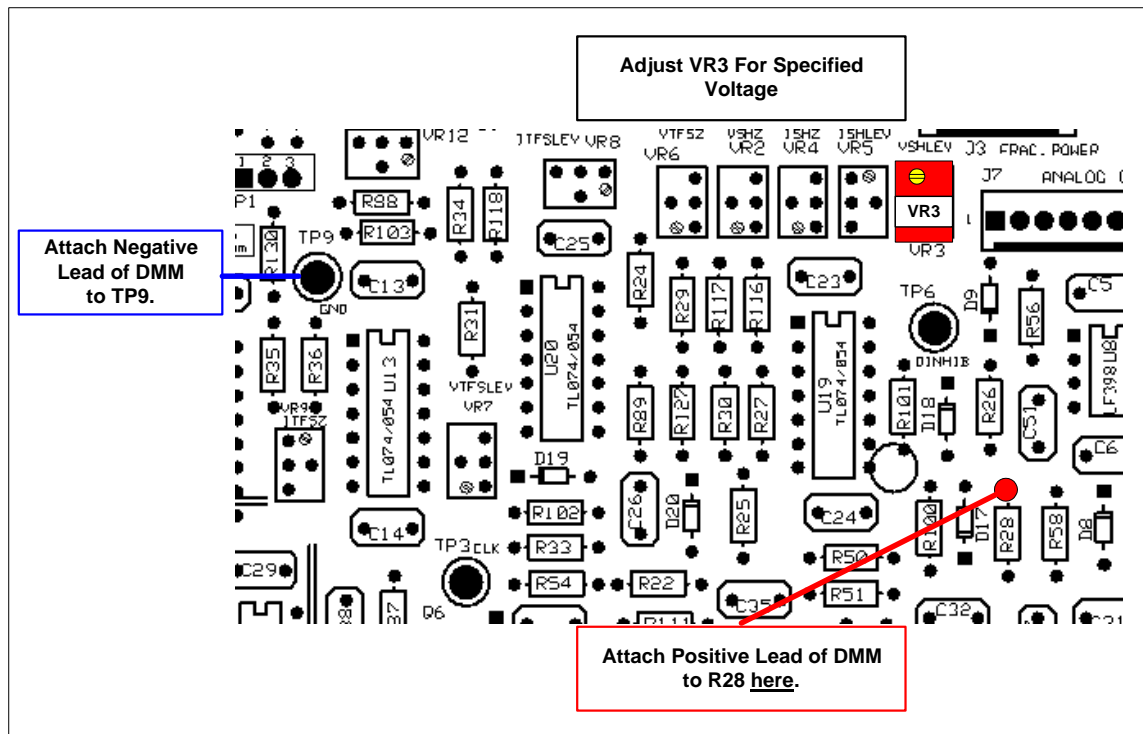

Figure 9-5: Initial Range Voltage Calibration
6. Connect the positive lead of the DMM to the end of R28 indicated in **Figure 9-5** and leave the negative lead of the DMM attached to TP9.